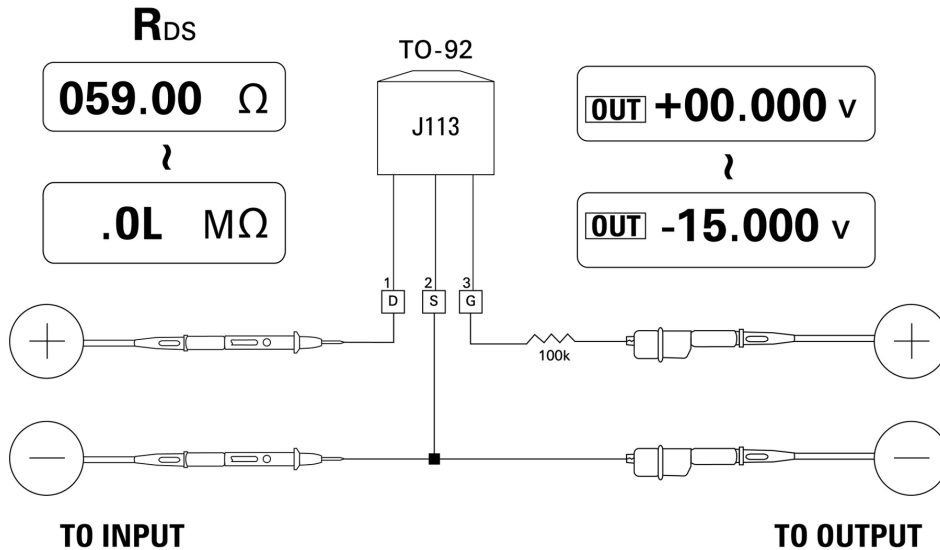

Figure 5-11 N- Channel JFET
- 4 Gradually decrease the voltage output from +00.000 V to -15.000 V. The R_{DS} value will increase correspondingly (Figure 5-11 on page 106).